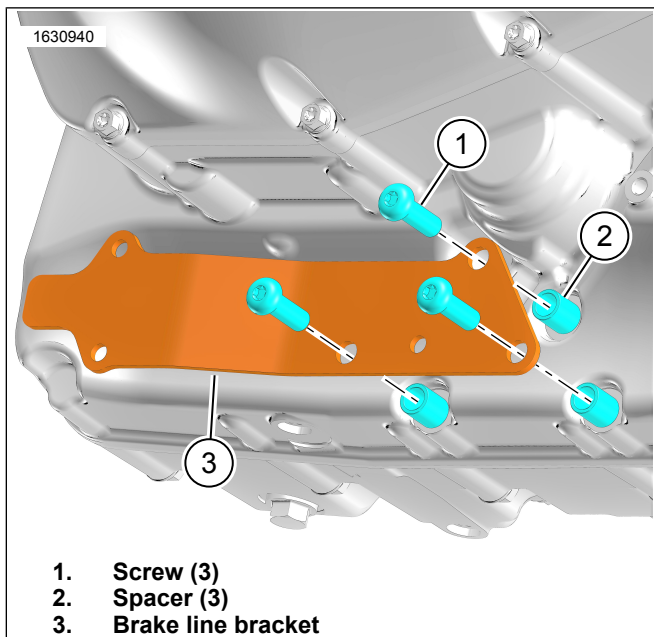

Figure 16. Brake Line Bracket
6. See Figure 16. Install brake line bracket (3).
7. Apply threadlocker to screws (2).